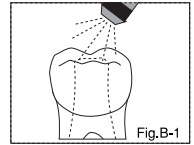

Fig.B-1
- a) After appropriate pulp treatment, clean and gently dry the pulp chamber with an air syringe (Fig.B-1).